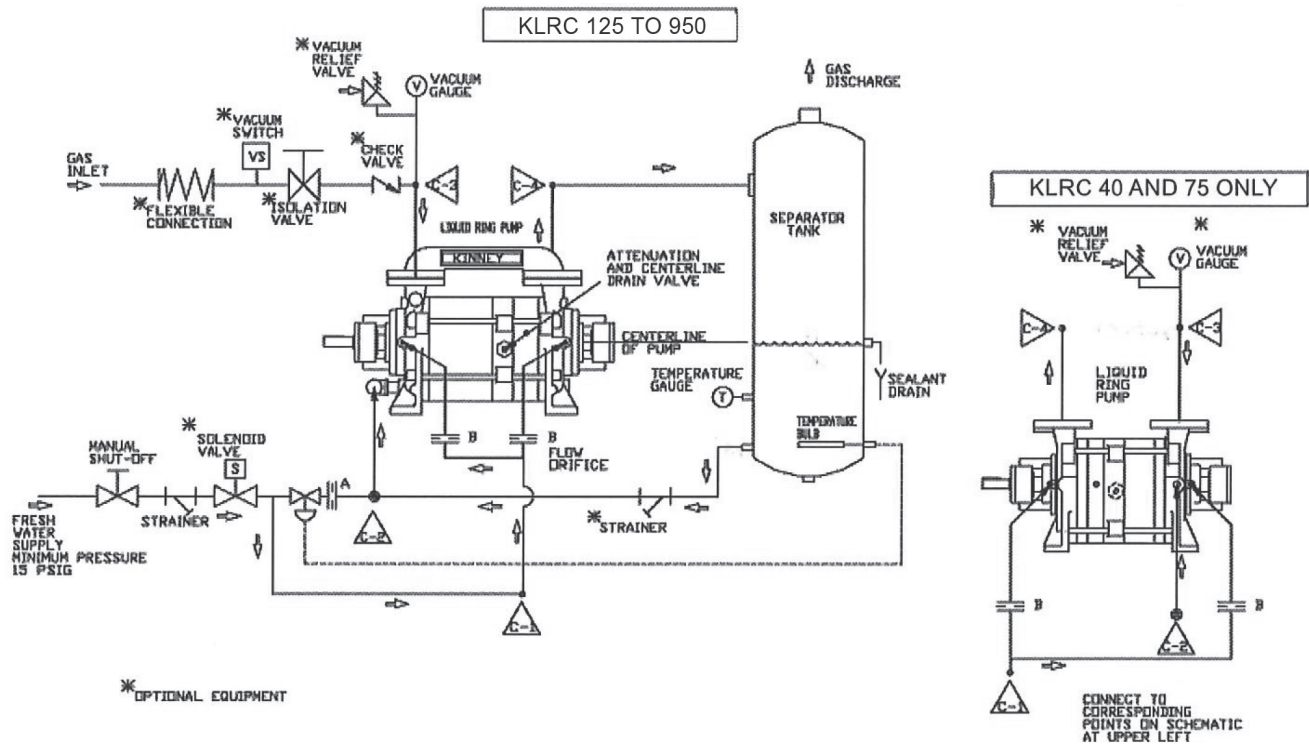

Figure 3-2 – Piping Schematic: Partial Sealant Recovery System
- Partial Recovery (**Figure 3-2**)